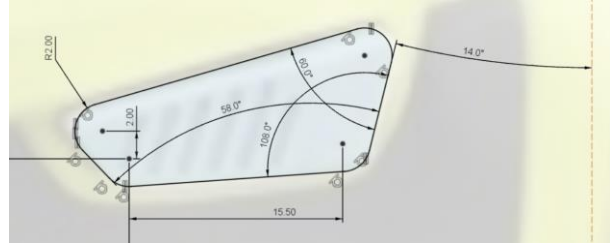

Figure 7. Add internal linear dimensions
7. Apply the internal dimensions for the profile shown in Figure 7. Finish the sketch and launch the Extrude tool.